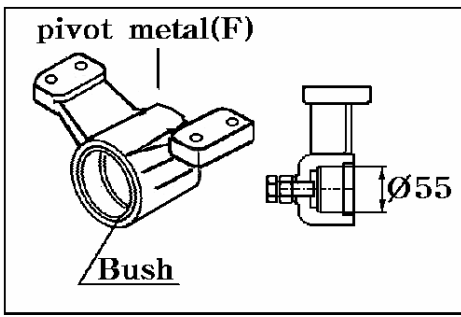

Fig. 6-8
- The shim of the roll bush should reach position as shown Fig. 6-8. In other words the seam should be in a position which is free from any load.